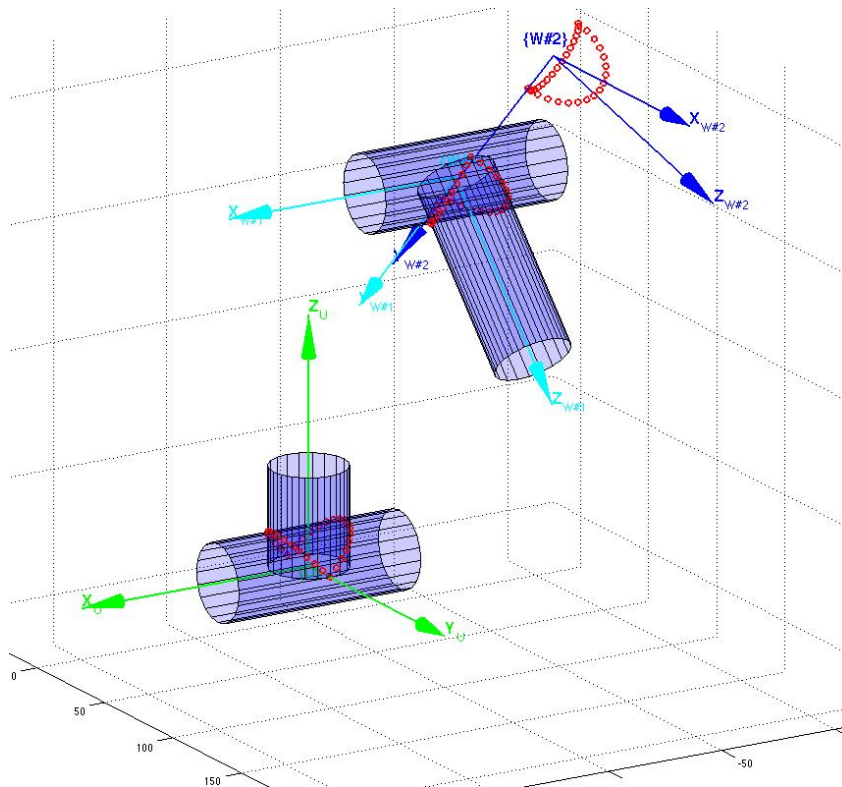

Ilustración 2 References frames and intersecting cylinders
2. Place on site all necessary reference frames to perform the welding of the 24 locations. Draw two intersecting cylinder in any of the 24 sites. See Ilustración 2 References frames and intersecting cylinders.²